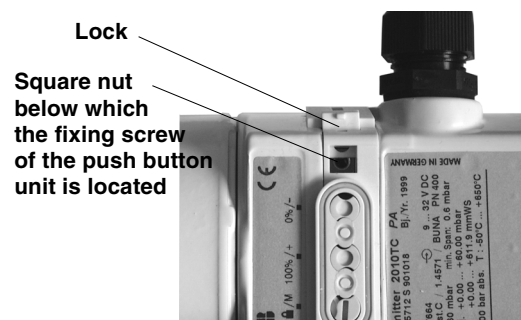

Figure 8. Push button unit - disassembly / assembly
Assembly / disassembly of push button unit (Figure 8)
- Unscrew enclosure cover of the electronic compartment (see figure 8) (if necessary, observe section "Secure enclosure cover for EEx d").
- Plug LCD indicator. Depending on the mounting position of the transmitter, the LCD indicator can be slipped on in four different positions; in this way turns by $\pm 90^\circ$ or $\pm 180^\circ$ are possible. **Note:** If the LCD indicator is backlit (option), there is a three-core cable with plug on the back of the indicator. Connect this plug with the three-pole plug strip in the electronic compartment (see Fig. 8) before slipping on the indicator. If there is a jumper on the 3-pole plug strip (in case of fieldbus transmitters no jumper is existing), it has to be removed and plugged into the "socket for jumper".